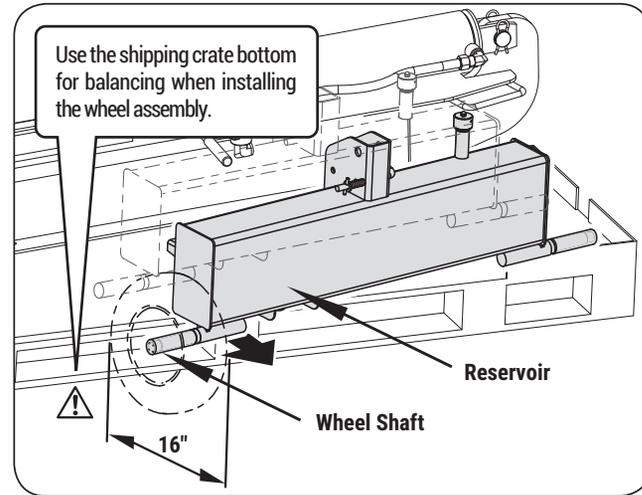

Figure 3b
2. Move the reservoir and let the side wheel shaft outside of the pallet. (See **Figure 3b.**)